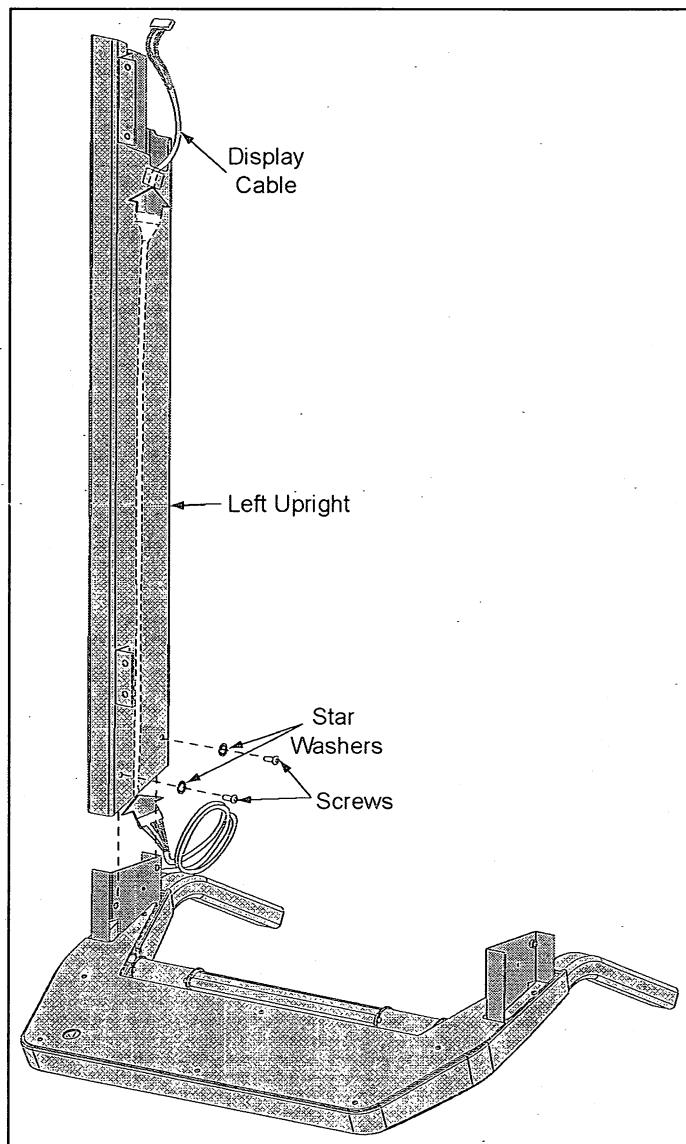

Figure 5
- A. Place the console assembly on the floor with the display side facing down and place the left upright on the floor with the decal end farthest away from the console. See Figure 5.
- B. Thread the display cable through the inside of the left upright from top to bottom. See Figure 5.
- C. Pull the cable out of the bottom of the upright. See Figure 5.
- D. Slide the support over the console's left mounting bracket and loosely fasten the support to the mounting bracket using two button head screws and two star washers. Leave both screws fairly loose at this time. See Figure 5.